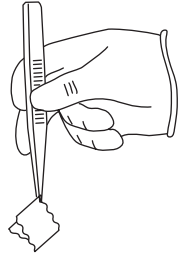

Fig. 3
3. Wearing gloves, use tweezers to carefully grasp corner of white membrane from between paper separators (See Fig. 3). Do not touch center of membrane.